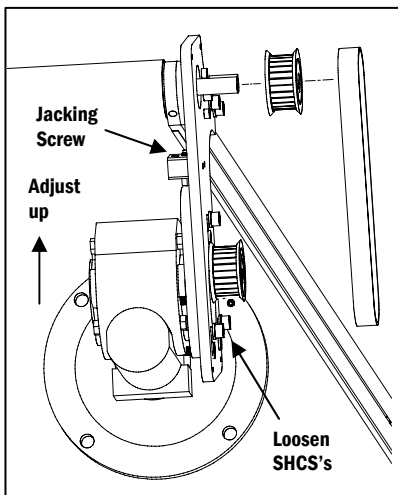

Figure 4
- c. Thread the Tracking Screw up to allow the gearbox and subplate to move toward the conveyor (**Figure 4**).